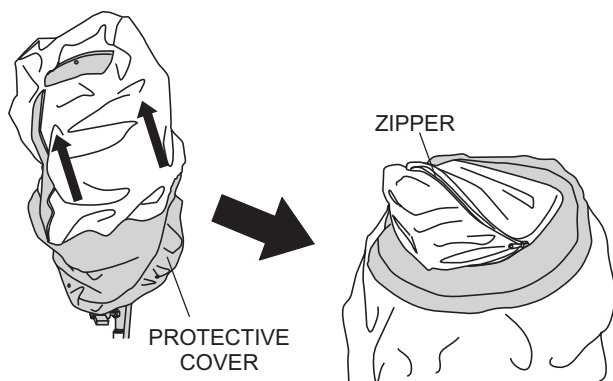

Figure 3. Folding Protective Cover
2. Next, fold the protective cover (Figure 3) into itself and zip.